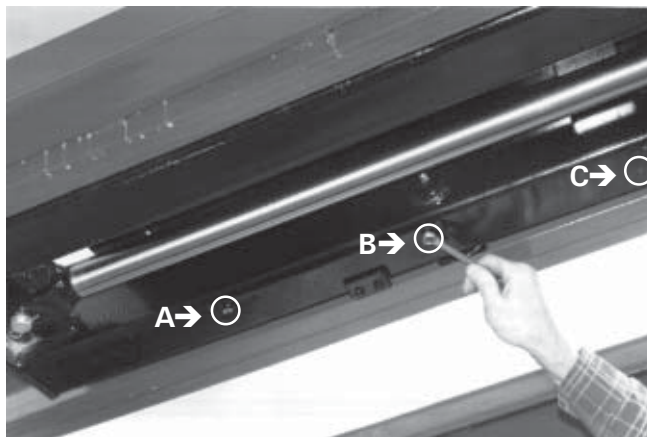

Figure 14
- 1) The length of stroke is factory set for the longest bale dimension (5 1/2') (holes A & B) although the stroke can be shortened to further increase the efficiency of the machine while handling shorter bales (4') (holes B & C) (Figure 14).